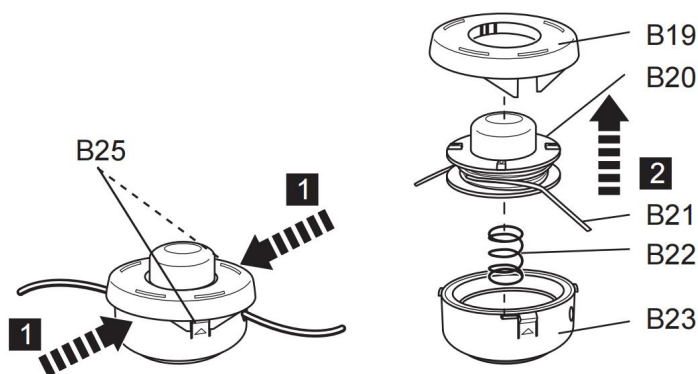

Fig. 63
3. Press the release latches (B25) on the trimming head housing (B23) to open the cover (B19) (Fig. 63). The cover (B19) and spool (B20) will pop out.